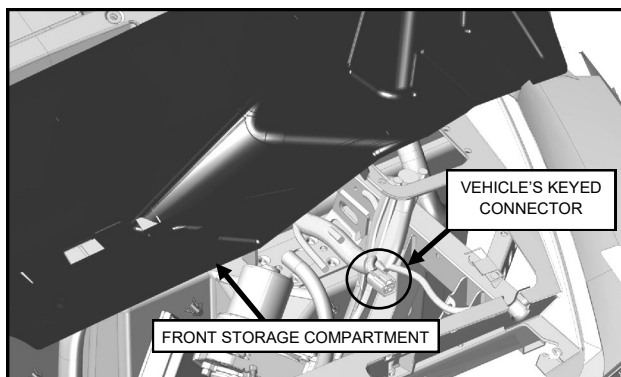

Fig. 3.4 (Front Storage Compartment 835/845)
3.4 For 835 and 865 vehicles, remove hood and front storage compartment as shown in fig 3.4. Place the (2) connectors found on the UTV Plow Wire Harness near the vehicle's keyed connector as well as the 9-pin connector for the controller found on the Main Wire Harness.